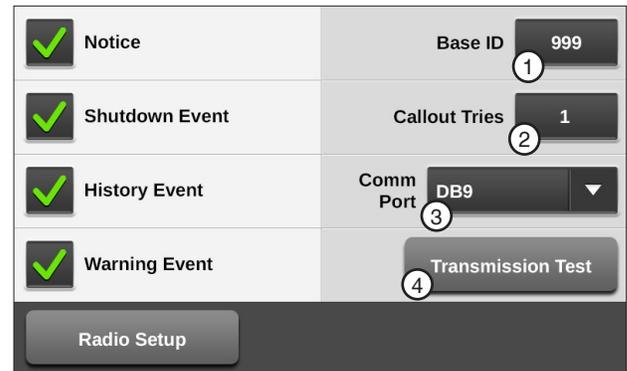

Figure 81-1 Notice Screen
Use Base ID to set the BaseStation identification number in the control panel. The factory default setting is 999. Refer to Figure 81-1.
1. Push **Menu**, **Utilities** and **Notice** to display the Notice screen. Refer to Figure 81-1.
To transmit current status information, push **Menu**, **Utilities** and **Notice** and push the **Transmission Test** button. Refer to Figure 81-1.